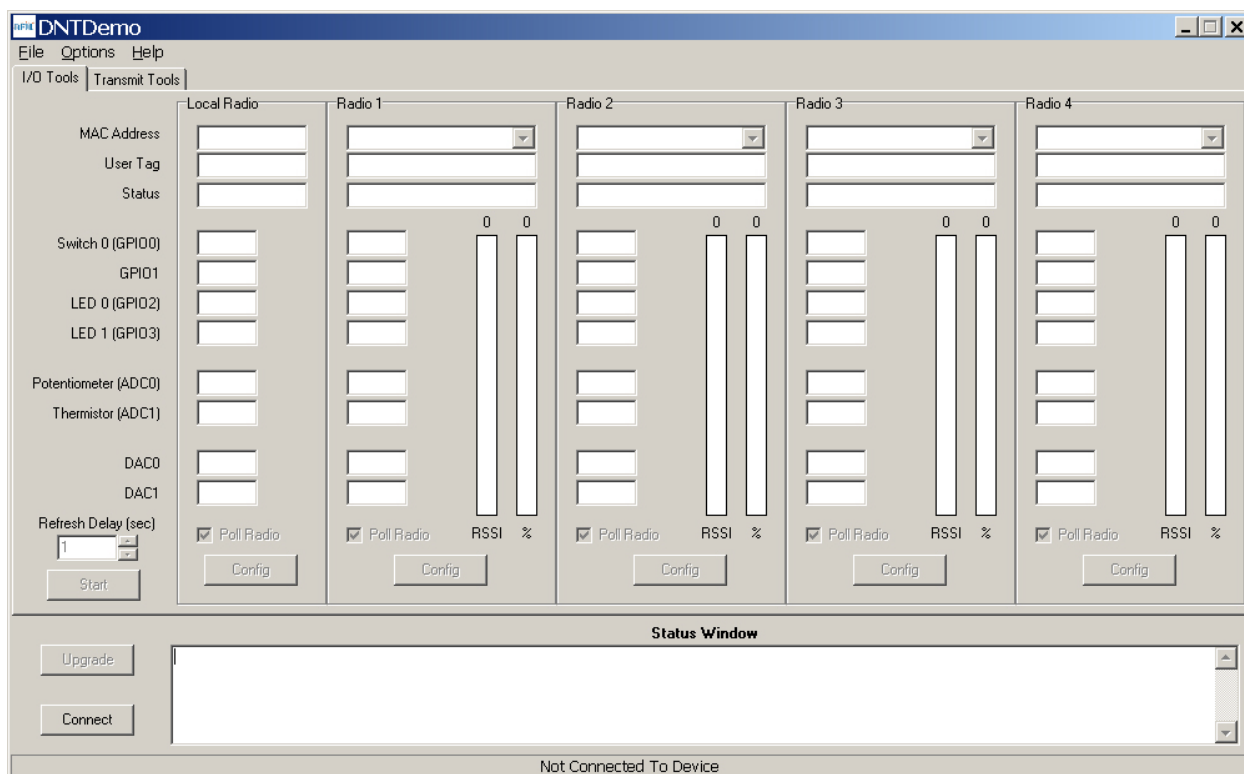

Figure 8.6.1
1. Start the Demo on the PC. The Demo program start-up window is shown in Figure 8.6.1.